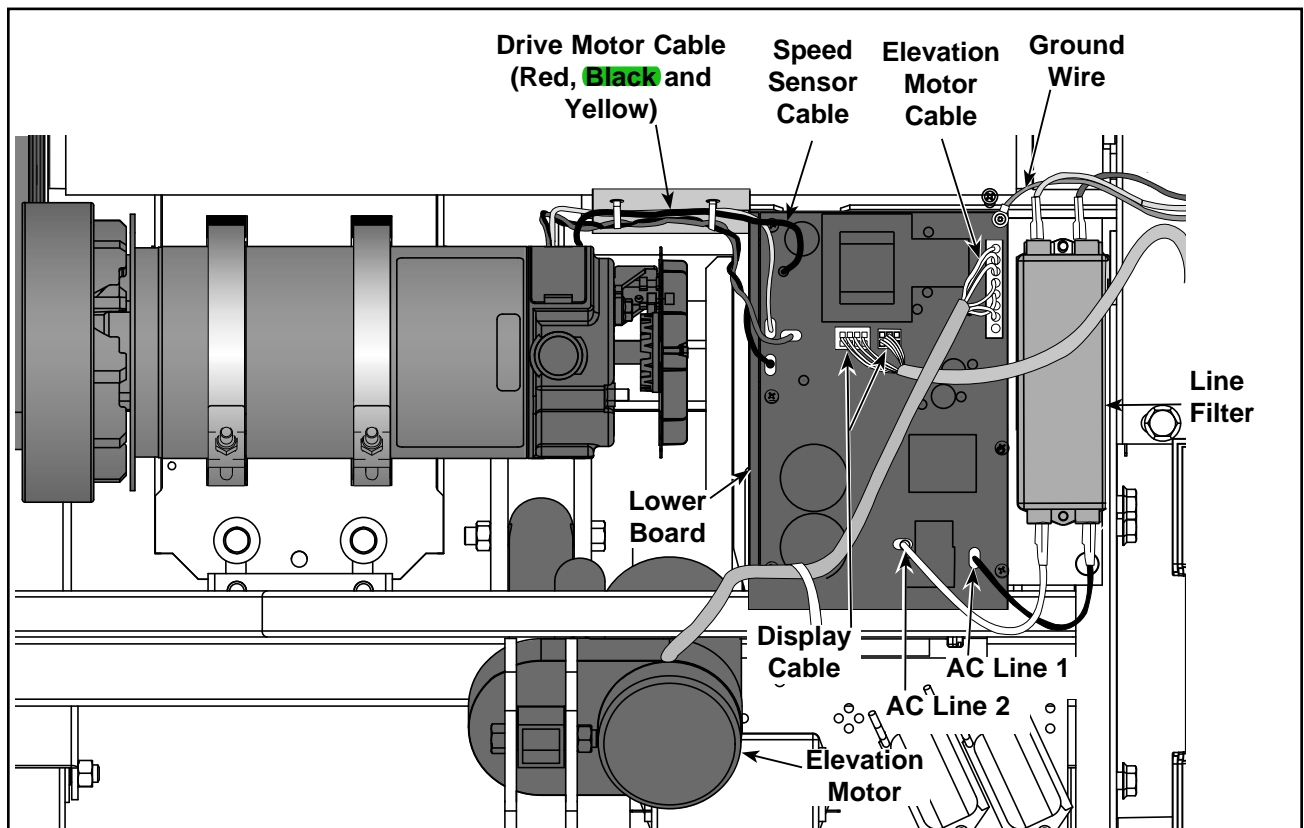

Figure 20
- A. Connect the cables to the lower control board. This includes: the elevation motor cable; display cable (P1 and P2); AC line 1 (black); AC line 2 (white); drive motor (black, red and yellow) and speed sensor cable. See Figure 20.